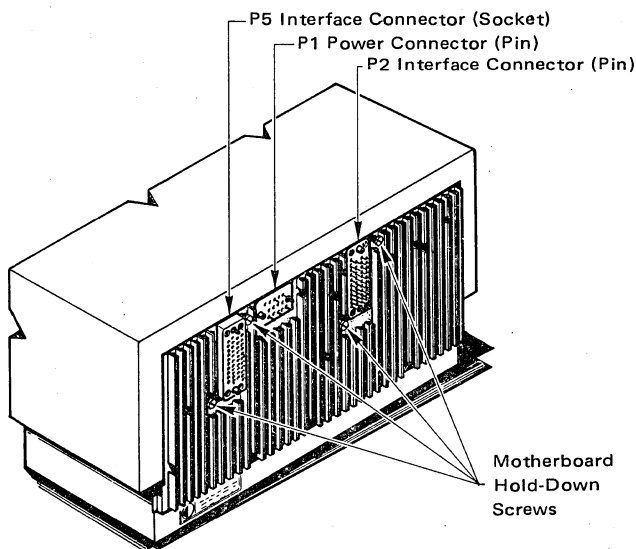
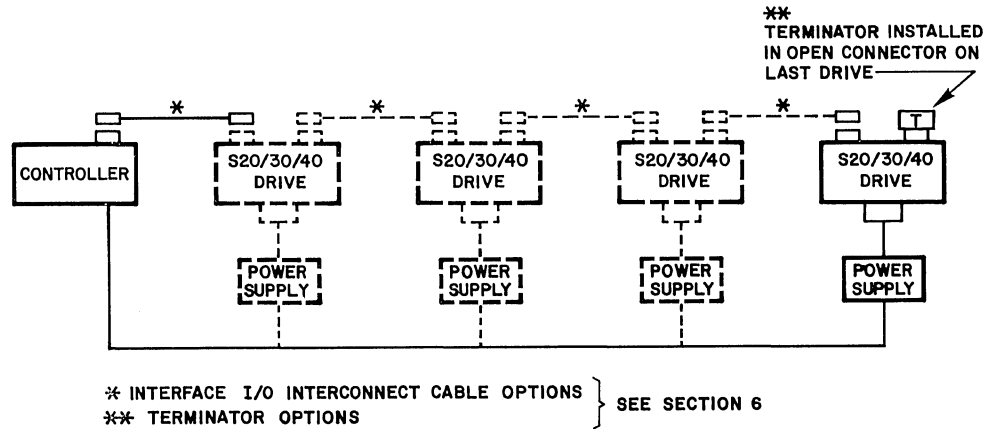

Figure 2-5 SERIES 30 REAR PANEL INTERFACE CONNECTORS
Figure 2-8 DISK DRIVE "DAISY CHAIN" INTERCONNECT AND TERMINATOR SCHEME
A standard Series 30 Disk Drive has two interface (Input-Out) and one power connector on its rear panel, as shown in Figure 2-5. The two I/O connectors are connected in parallel, pin for pin, by the drive's Mother PCB. Of these, connector P2 has pin (M) contacts, while connector P5 has socket (F) contacts. Table 2-1 lists the connector parts required for cable ends to mate with these rear I/O connectors.
Figure 2-8 illustrates the typical scheme for connecting one to four drives to one controller, where more-than-one is referred to as a "daisy-chain" system. Referring to Figure 2-5, it may be seen that both pin (M) and socket